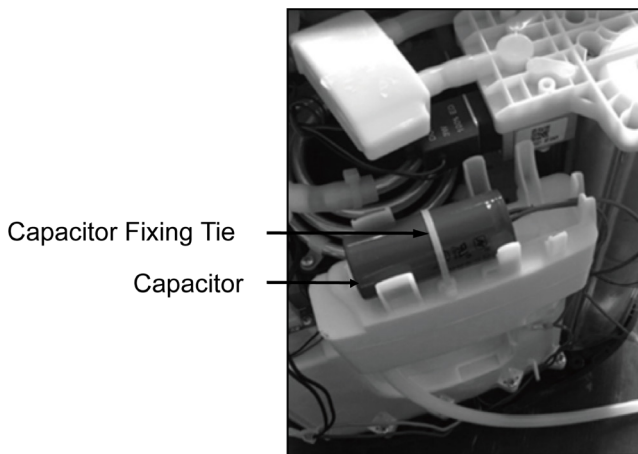

Figure 17
- ▶ Cut the capacitor fixing tie and remove the capacitor. (Figure 17)